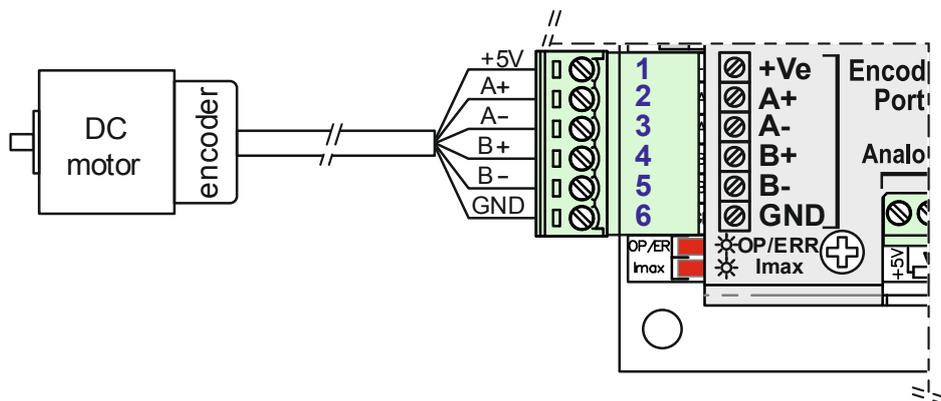
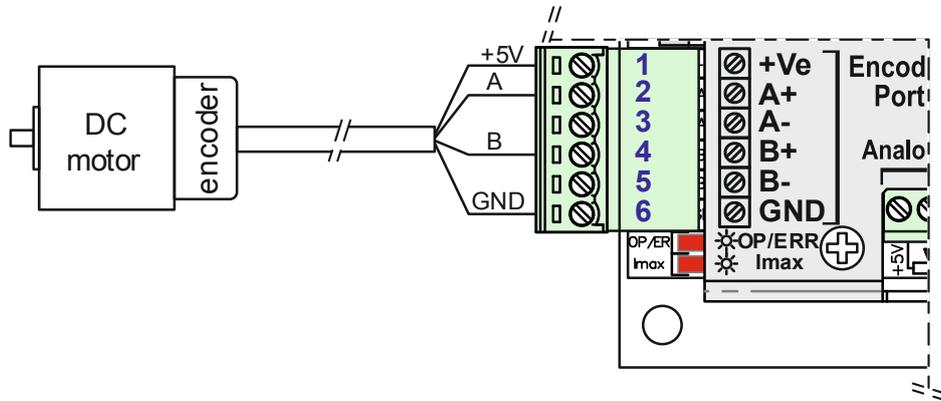

Figure 4.13 Connecting the incremental encoder with differential (complementary) outputs to the servo driver DCS-3010(-HV)
Figure 4.15 Connecting an incremental encoder with single-ended outputs to the DCS-3010(-HV) servo driver – not recommended
As feedback by position, it is recommended to use an incremental encoder with differential (complementary) outputs (A+, A-, B+ and B- outputs, Figure 4.13).
An incremental encoder with single-ended outputs can be connected directly to the DCS-3010(-HV) servo driver (Figure 4.15).
**NOTE: Connecting an incremental encoder with single-ended outputs to the DCS-3010(-HV) servo driver (Figure 4.15) is NOT RECOMMENDED FOR LONGER CABLE LENGTHS.**
It should be noted that it is possible to connect an incremental encoder as shown in Figure 4.13, Figure 4.14 and Figure 4.15 depending on the type of incremental encoder available.